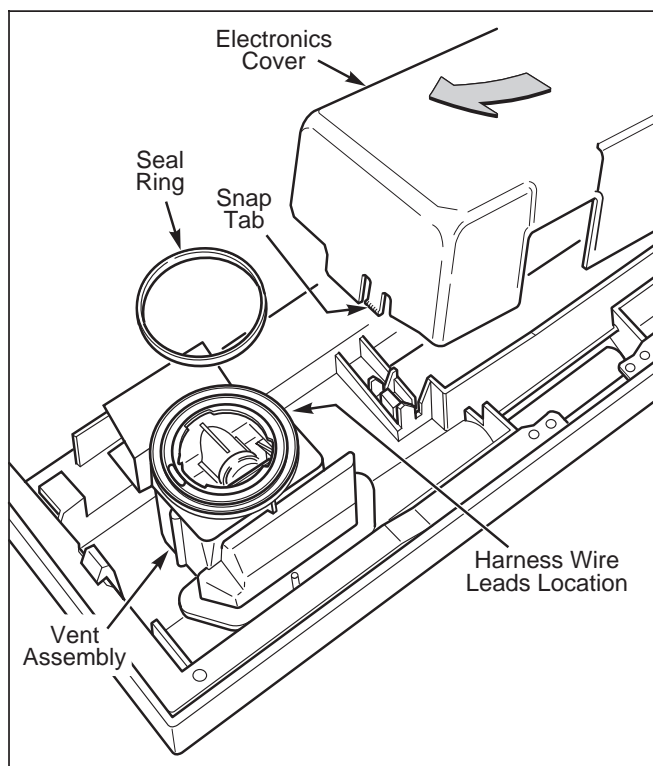

Figure 2
4. To remove the vent assembly, refer to Figure 2 and disconnect two (2) electrical harness wire leads from wax motor terminals. Lift out the vent assembly, retaining the seal ring for later reinstallation.
5. To access electronic controls, press in on snap tab at end of electronics cover to release, then lift cover up at tab end as you slide cover out. See Figure 2.
1. Reinstall electronics cover by sliding it into position above controls and pressing down till snap tab holds it in place. (Figure 2 shows cover removal.)
2. Reinstall the vent assembly. Refer to Figure 2 and reconnect two (2) electrical harness wire leads to the wax motor terminals. Place seal ring in seal ring groove of vent assembly, and lower vent assembly into place.